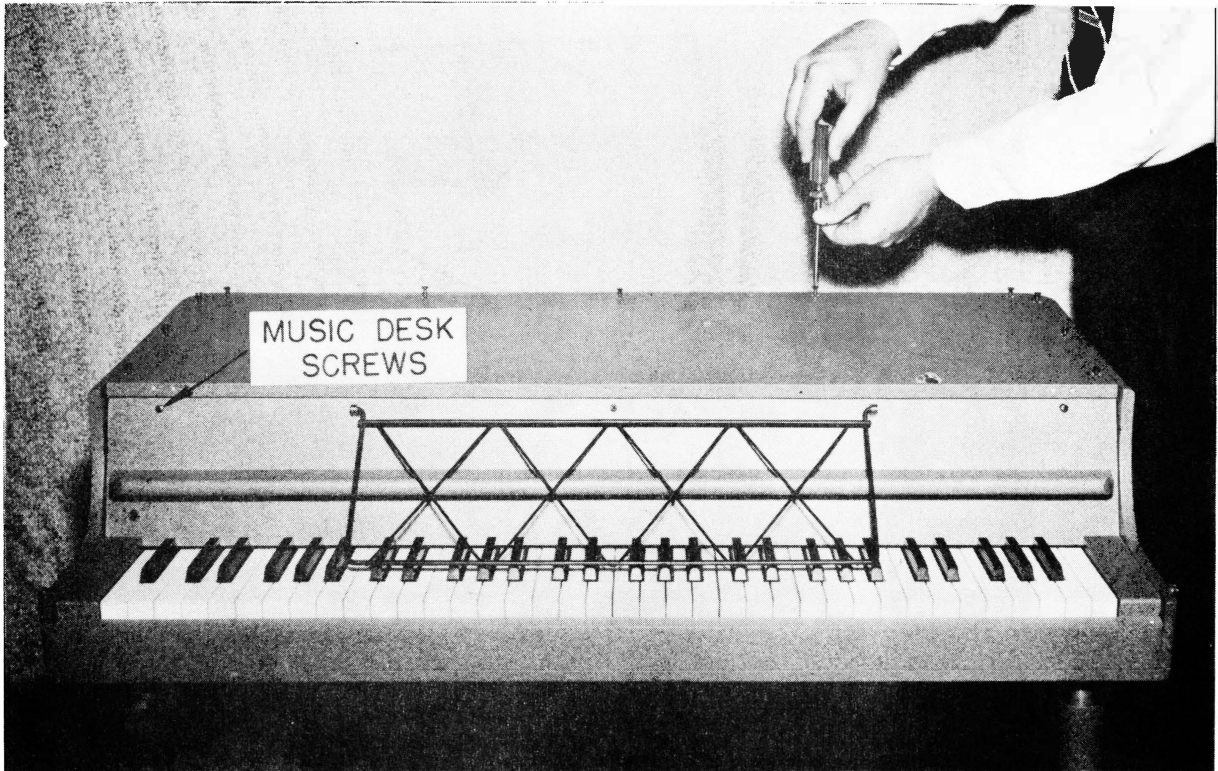

Fig. 1
2. Remove screws from top as shown in Fig. 1.
3. Remove screws from music desk as shown in Fig. 1.